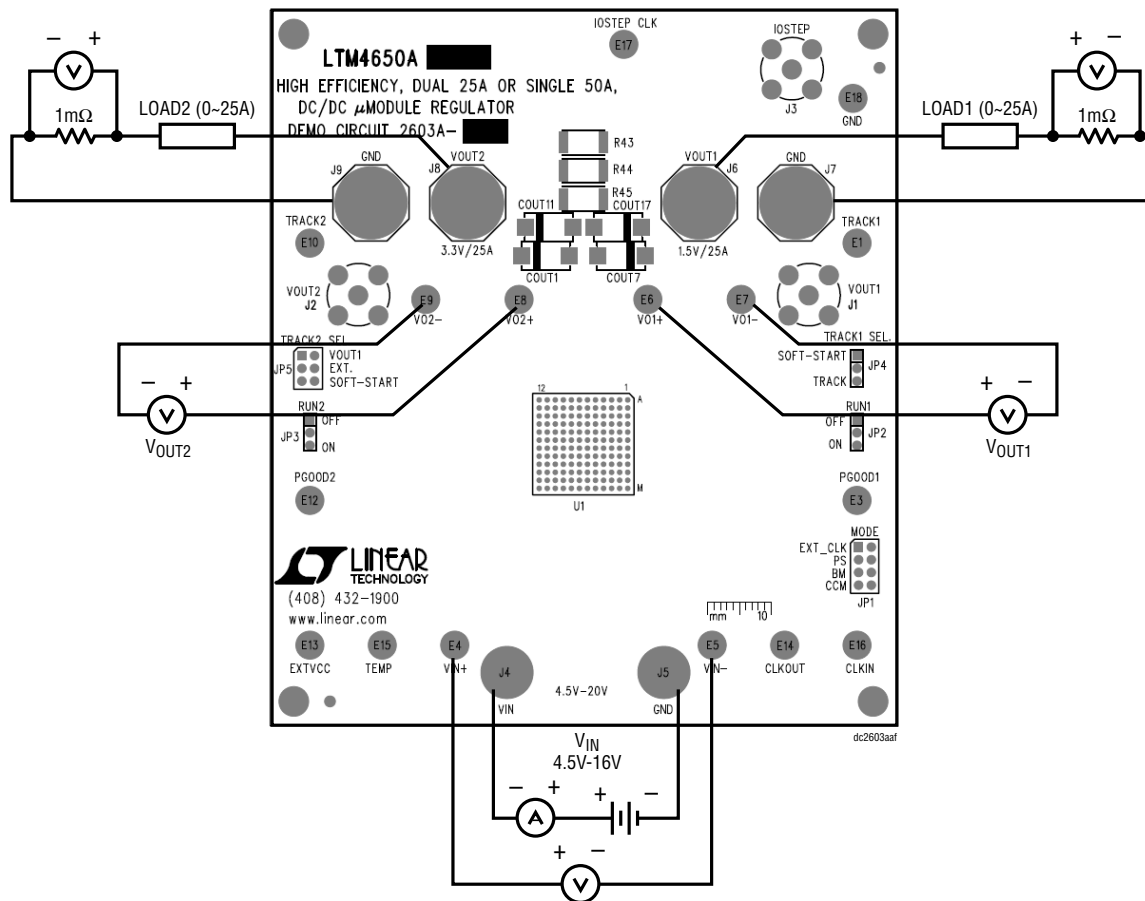

Figure 2. Test Setup of DC2603A-A
Demonstration circuit DC2603A-A is easy to set up to evaluate the performance of the LTM4650AEY. Please refer to Figure 2 for proper measurement setup and follow the procedure below:
2. With power off, connect the input power supply, load and meters as shown in Figure 2. Preset the load to 0A and V_{IN} supply to 12V.